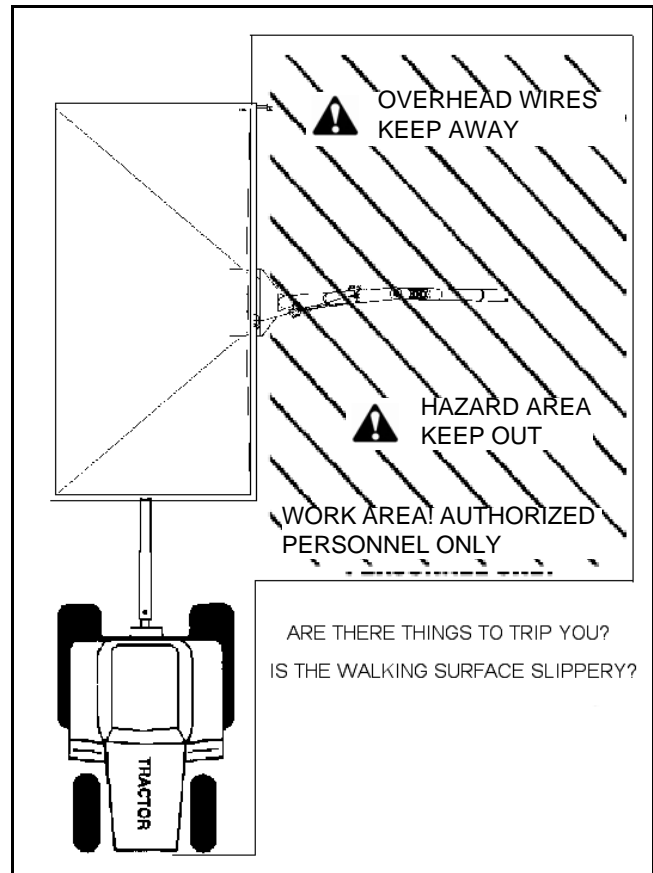

Figure 2.1
- Keep children and untrained personnel away from auger work area (Figure 2.1). The area around the auger is not safe for untrained personnel, and especially not safe for children.